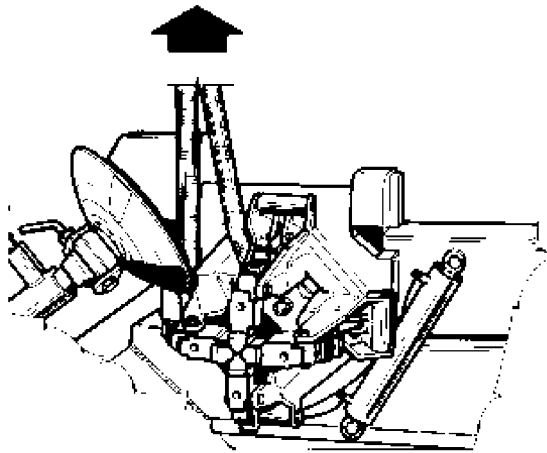

Fig.12
A. Before raising the machine, ensure that the chuck is completely closed, that the chuck arm is lowered and the tool holder carriage is all the way in (Fig.12).